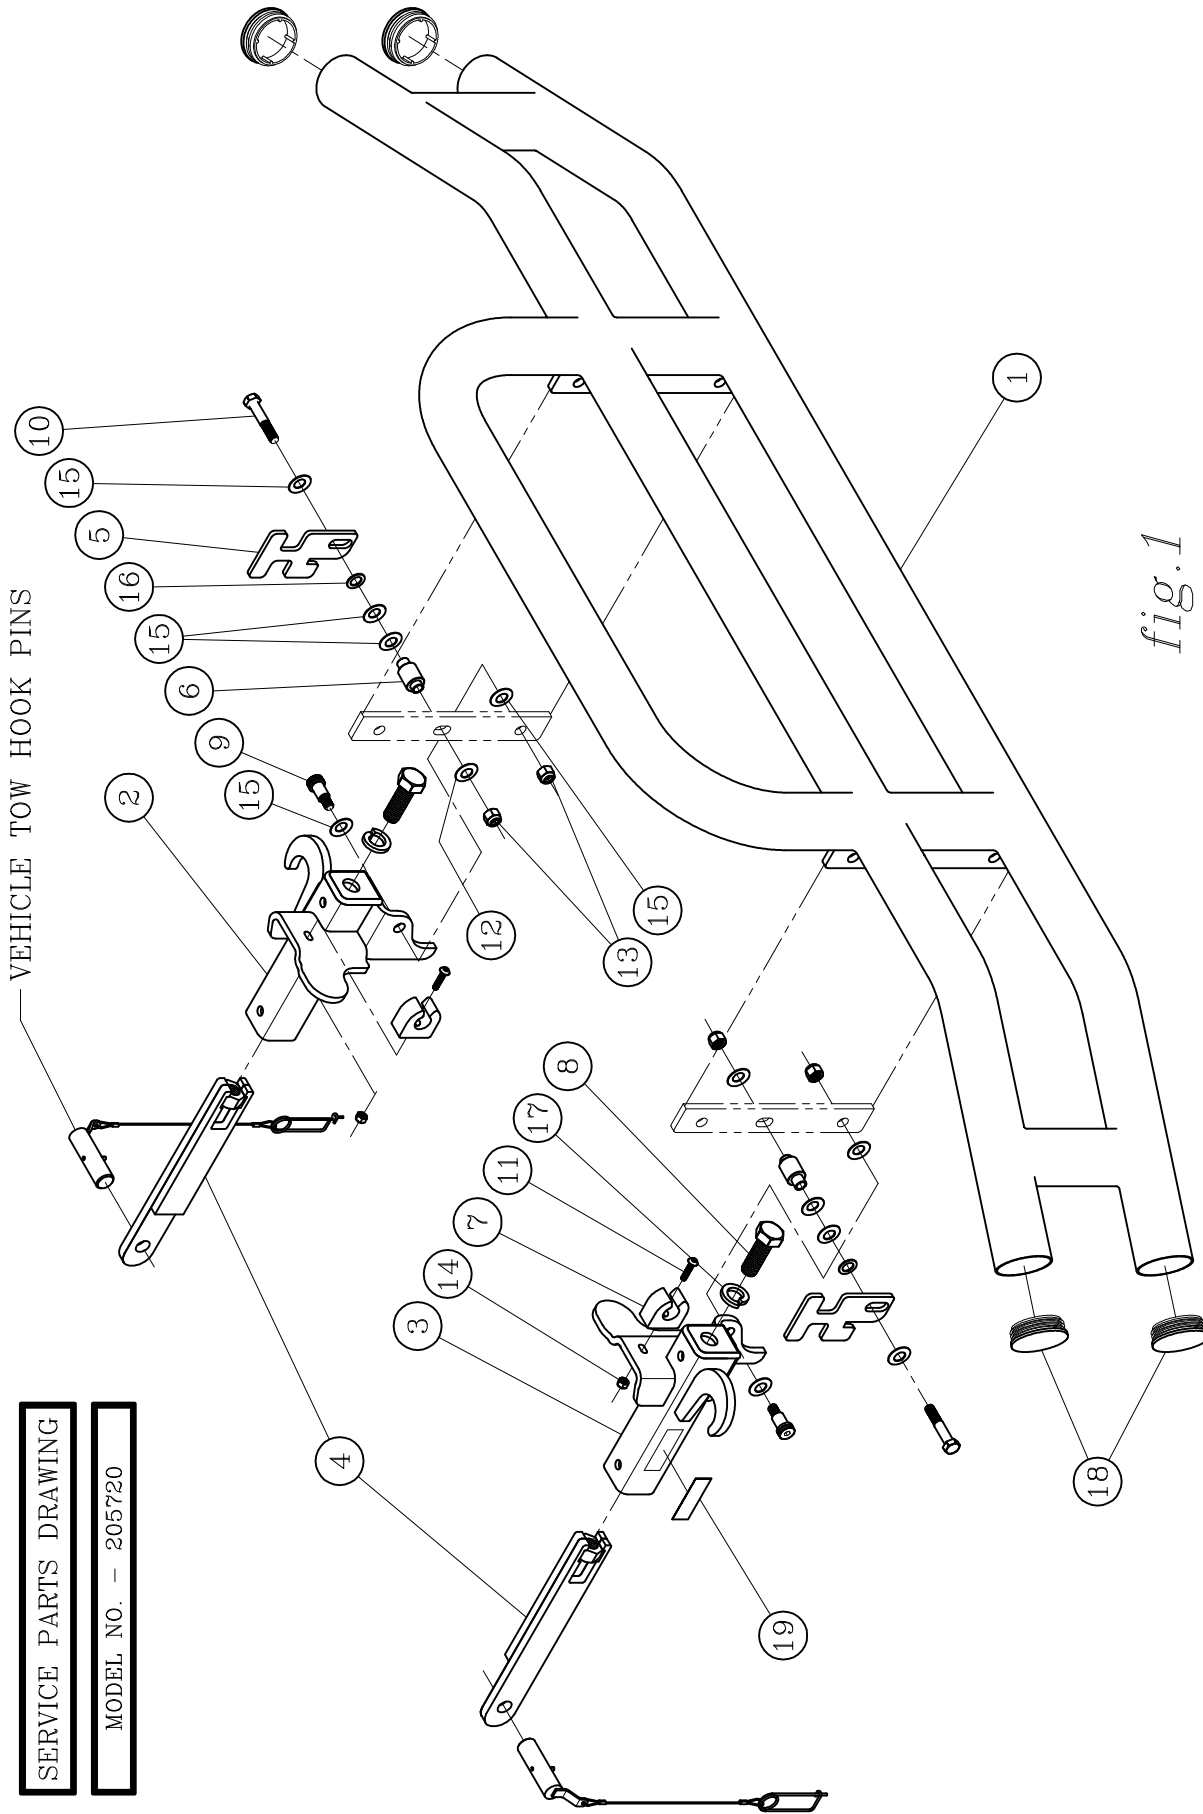

fig.1
3. USING THE 5/16"-18 X 1-1/4" BUTTON HEAD SCREWS (ITEM #11), AND 5/16"-18 NYLOCK NUTS (ITEM #14), ATTACH THE RUBBER STOPS (ITEM #7) TO THE MOUNTING BRACKETS AS SHOWN IN FIG 1.